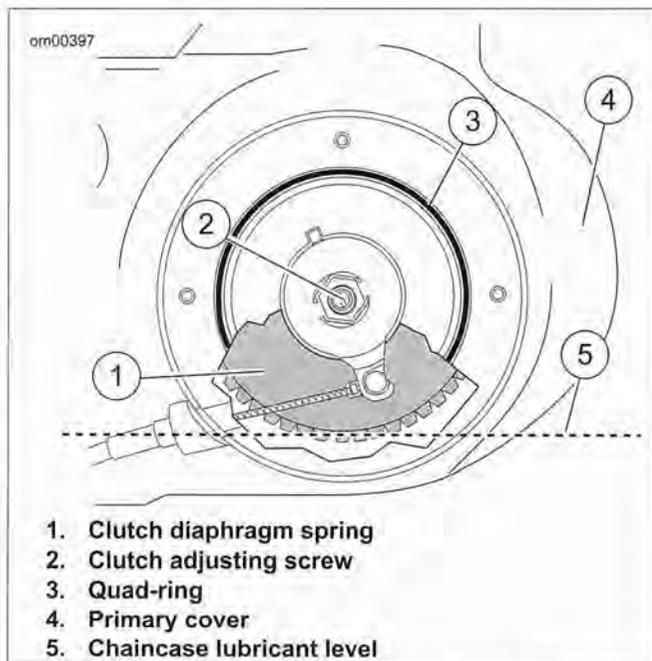

Figure 1-44. Chaincase Lubricant Level
6. See Figure 1-44. Verify that lubricant level is even with bottom of clutch diaphragm spring (1).
10. See Figure 1-44. Add 1.00 qt (0.95 L) of GENUINE Harley-Davidson FORMULA+ TRANSMISSION AND PRIMARY CHAINCASE LUBRICANT (Part No. 98851-05 qt) through clutch inspection cover opening. Verify that lubricant level is even with bottom of clutch diaphragm spring (1).